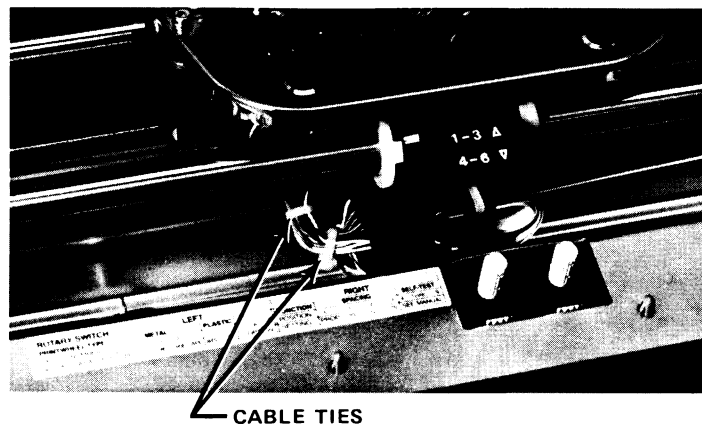

Figure 4-18. RIBBON DECK CABLE TIES
- 3) Remove the two cable ties located near the carriage cable connectors (Fig. 4-18). (In some units, only one cable tie is used here.)